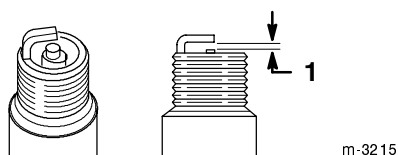

Figure 20
7. Set the spark plug gap (Fig. 20) between the electrodes to 0.030 in. (0.76 mm).